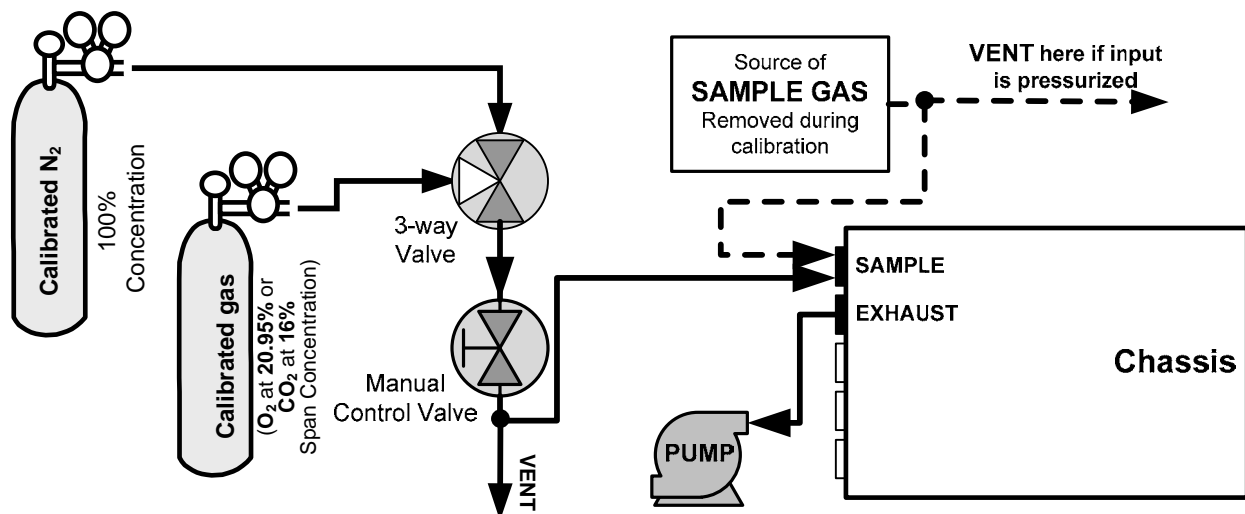

Figure 3-11: Pneumatic Connections, Using Bottled Span Gas
- In applications where the sample gas is received from a pressurized manifold, a vent must be placed on the sample gas before it enters the analyzer. Please refer to Figure 3-11.
The span gas, zero air supply and sample gas (if pressurized) line **MUST** be vented (Figure 3-11) for two reasons: in order to ensure that the gases input do not exceed the maximum inlet pressure of the analyzer, and to prevent back diffusion and pressure effects. These vents should be: